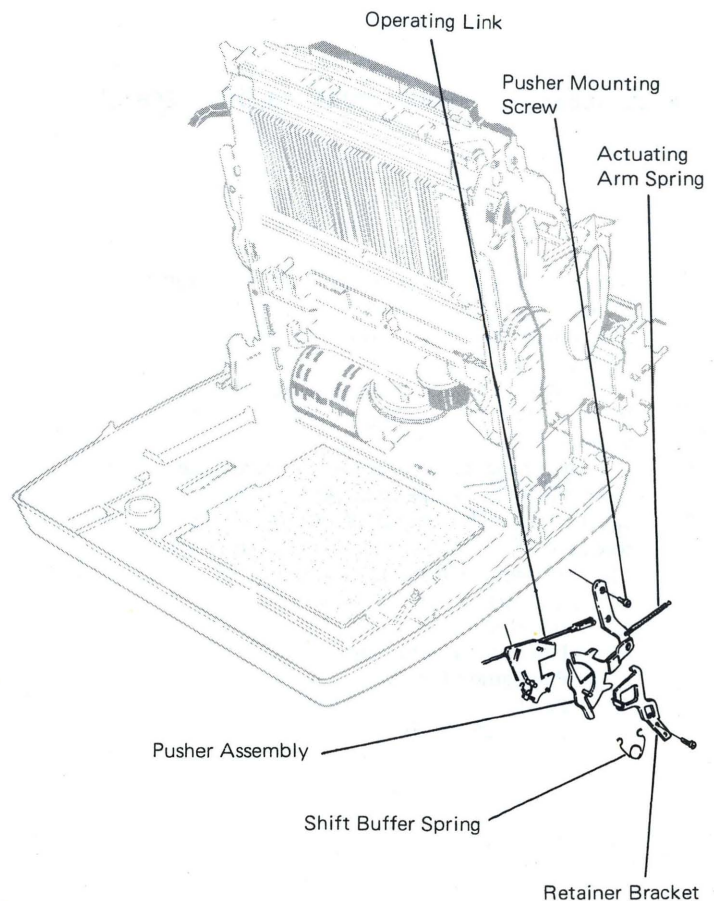

Figure 19 – Shift Buffer Removal
1. Remove the shift buffer spring (Figure 19).